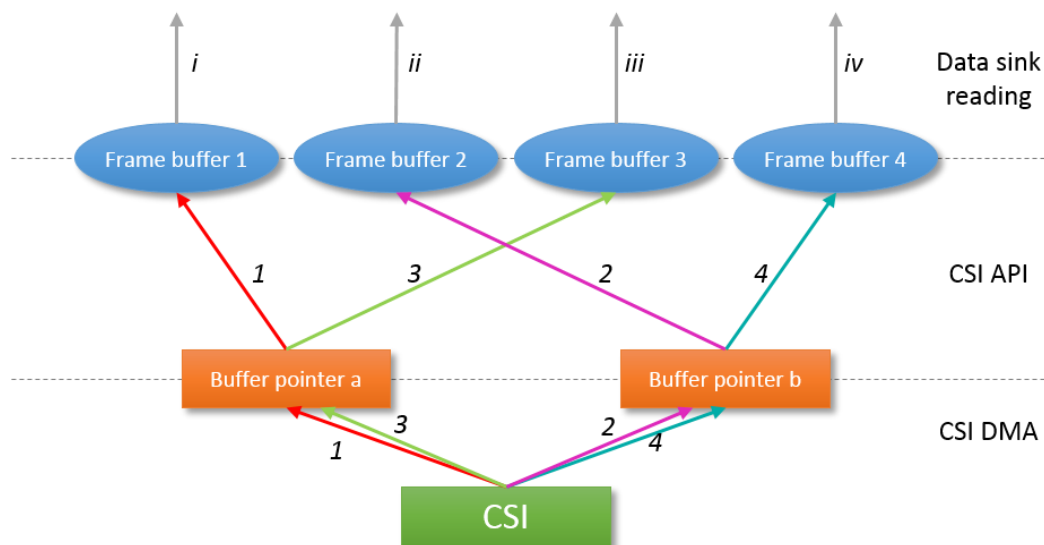

Figure 5. Frame buffer filling scheme
The CSI embedded DMA can write two frame buffer addresses alternately without stop. To improve the performance in a complicated application, the CSI driver extends the supported buffers to up to four, and organizes the frame buffers in a ring queue structure. CSI fills the buffers one by one, so that the data sink, such as LCD interface or USB, can drain the buffers at the same time. *Figure 5* illustrates the frame buffer filling scheme.
- CSI fills frame buffer 1 via buffer pointer a (the data stream 1 in *Figure 5*).
- CSI fills frame buffer 2 via buffer pointer b (the data stream 2 in *Figure 5*). At the same time, data sink can drain buffer 1 (the data stream *i* in *Figure 5*).
- CSI fills frame buffer 3 via buffer pointer a (the data stream 3 in *Figure 5*). At the same time, data sink can drain buffer 2 (the data stream *ii* in *Figure 5*).
- h. CSI fills frame buffer 4 via buffer pointer b (the data stream 4 in *Figure 5*). At the same time, data sink can drain buffer 3 (the data stream *iii* in *Figure 5*).
- j. Repeats from step 2 again. At the same time, data sink can drain buffer 4 (the data stream *iv* in *Figure 5*).